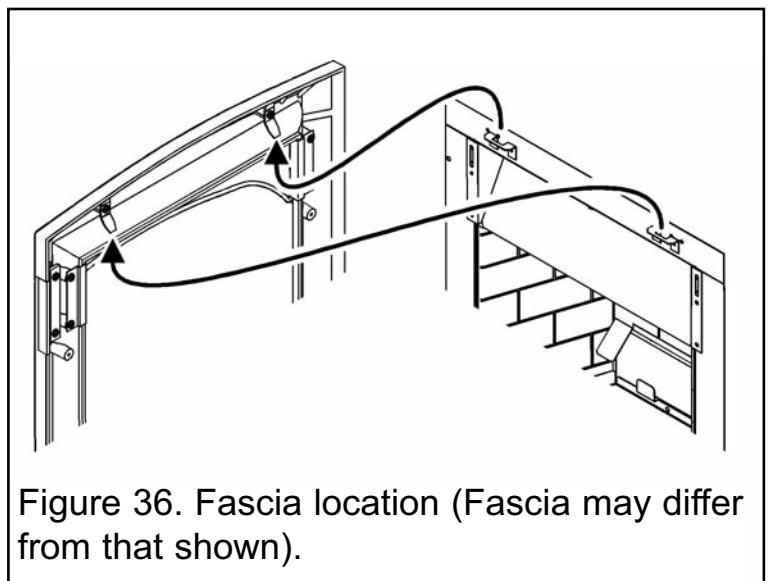

Figure 36. Fascia location (Fascia may differ from that shown).
3. Carefully lift the fascia upward to clear the upper retaining brackets on the hotbox - (See figure 36). Pull the fascia clear and place carefully aside.
4. Carefully lift the fascia upward to clear the upper retaining brackets on the hotbox - (See figure 36). Pull the fascia clear and place carefully aside.